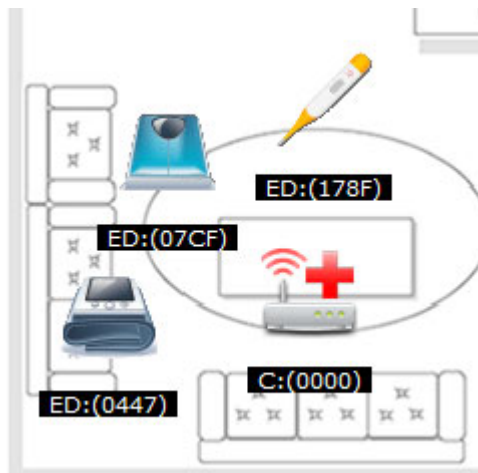

Figure 15. Hc BloodPressureMonitor Joined the Network as a New Node
8. Wait until the node is detected in the ZeD GUI where it appears as a new icon as shown in Figure 15.